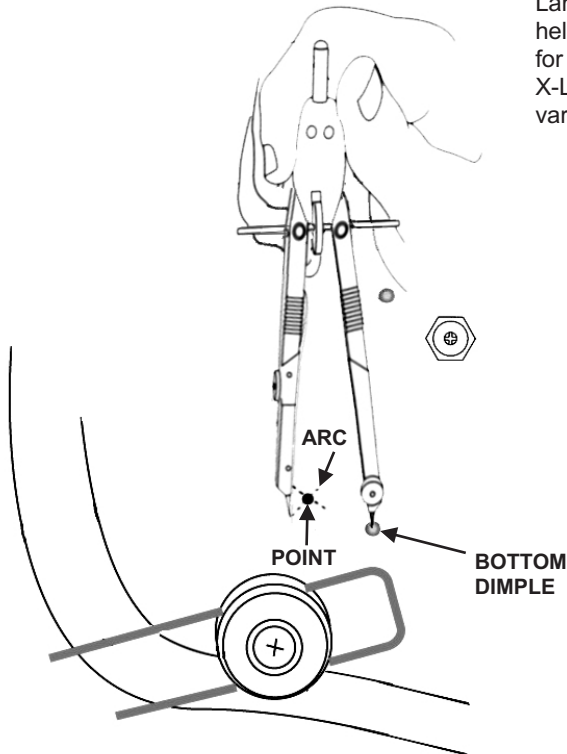

Figure 3. Drawing Arc from Bottom Dimple
5. Referring to **Figure 3**, position the point of the compass in bottom dimple on the same side of the helmet, and draw an arc.